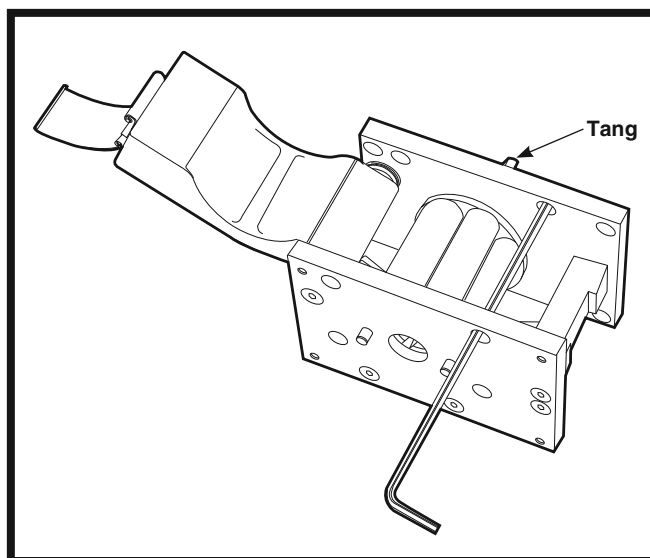

Figure 2. Pump Mounting
1. Connect the Pump Head to the drive by aligning the tang on the Pump Head (Figure 2) with the slot in the motor drive shaft and the dowel pins on the drive with the receiving holes on the Pump Head.